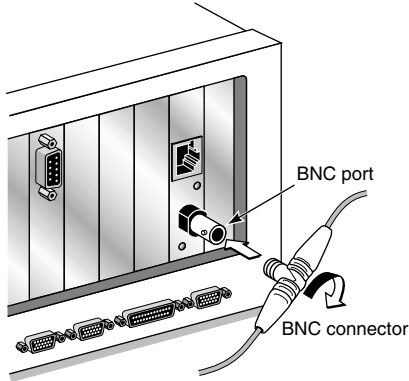

Figure 1-4 Connecting to the BNC Port on the 3C509B-TPC NIC
- 1 **Connect the BNC connector on the thin Ethernet coaxial cable to the BNC port on the NIC. See Figure 1-4.**